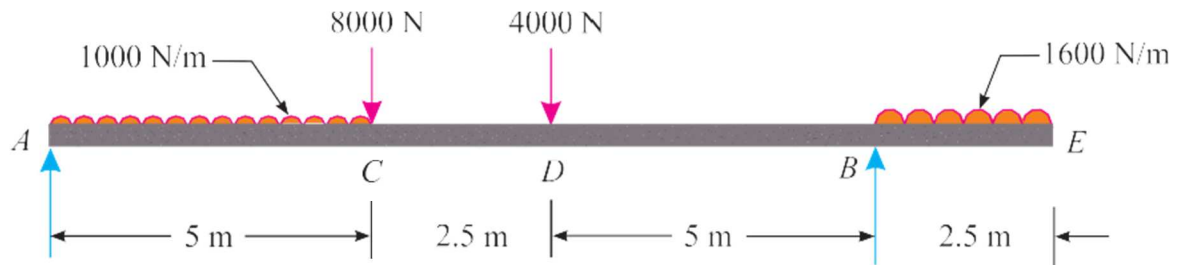

Fig. Q2 (a)
- a) Draw the shear force and bending moment diagrams for the beam shown in Figure Q2 (a) and indicate on them the numerical values at all the critical points of the beam. (10 marks)